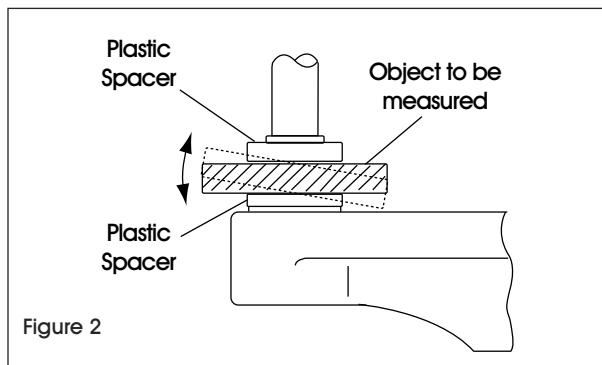

Figure 2
- This instrument may not be able to properly hold large objects in position for measurement. (See Figure 2)
**NOTE:** Plastic spacers have been inserted in the lever slide unit. (See Figure 2) They are used for assisting the lever operation. Never remove the spacers.